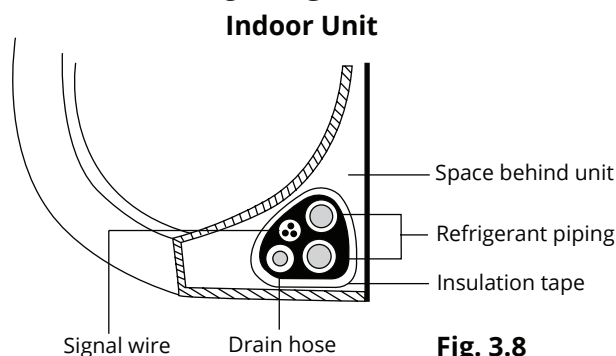

Fig. 3.8
1. Bundle the drain hose, refrigerant pipes, and signal cable according to **Fig. 3.8**.
3. Using insulation tape, wrap the signal wire, refrigerant pipes, and drain hose tightly together. Double-check that all items are bundled in accordance with **Fig. 3.8**